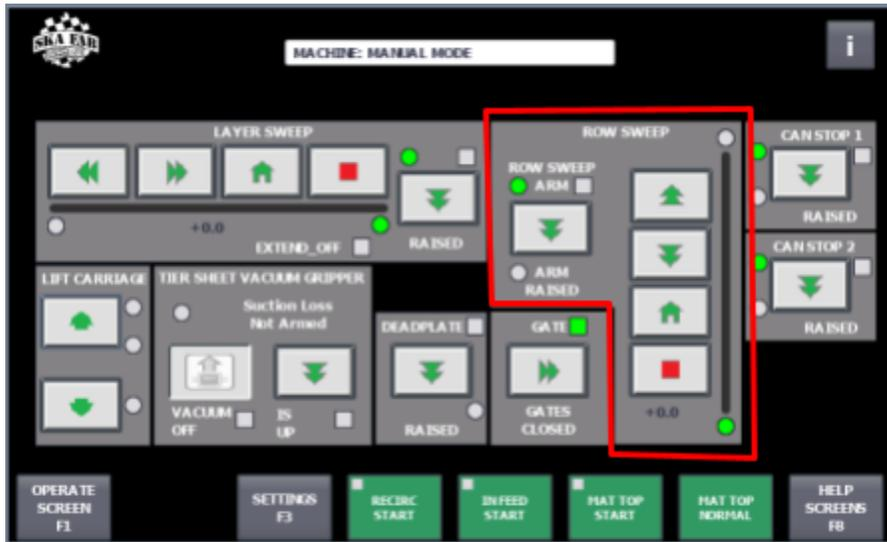

Fig. 25: HMI Screen – Row Sweep Manual Controls
2. Manually jog the Row Sweep by holding the UP or DOWN ARROW buttons shown in Fig. 25. The HOME button automatically returns the sweep to the home position. The STOP button interrupts a homing sequence. The ROW SWEEP ARM UP/DOWN ARROW button raises and lowers the Row Sweep.